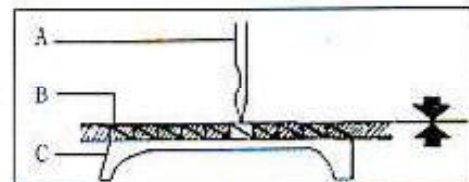

Fig 21
30. Timing between needle and feed dog motion(Fig.21,22)
When needle point A reaches needle plate top surface B, feed dog surface C should be keep accordant on height (Fig.21) with needle plate top surface. It is the standard synchronous relationship. Adjustive method as below: